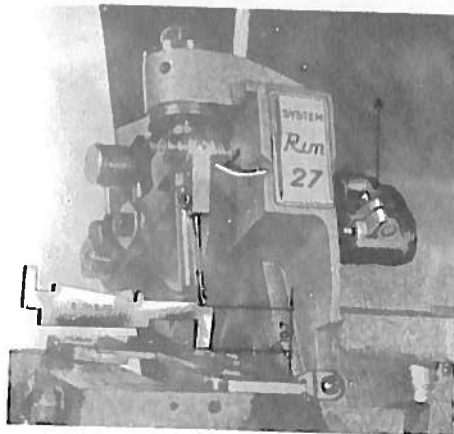

fig. 3
3) SETTING HEIGHT OF NEEDLE BAR (fig. 3)
-if adjustment is necessary, loosen screw A (fig.3) and move needle bar clamp up or down using needle gauge N. S. 1552.00 as indicated in fig. 3 to obtain the correct setting. Retighten screw A.